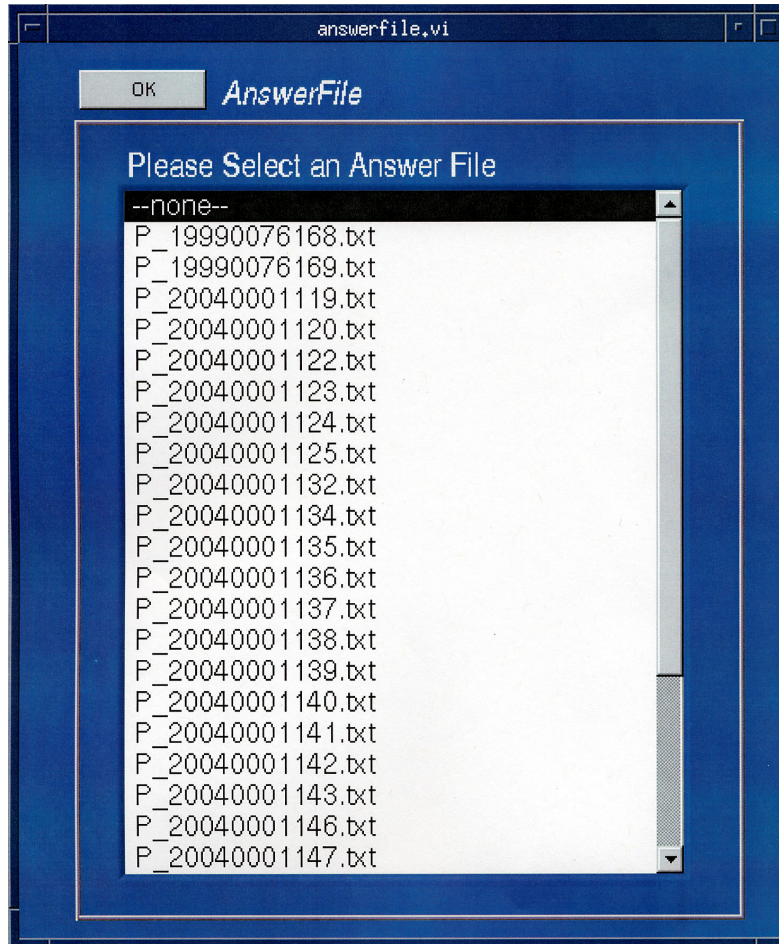

Figure 8
- 7.9.2 On the "AnswerFile.vi" screen, select the answer file (P_19990076169.txt or P_20040001132.txt as examples) that corresponds to the test number for the vehicle to be tested. See Figure 8.